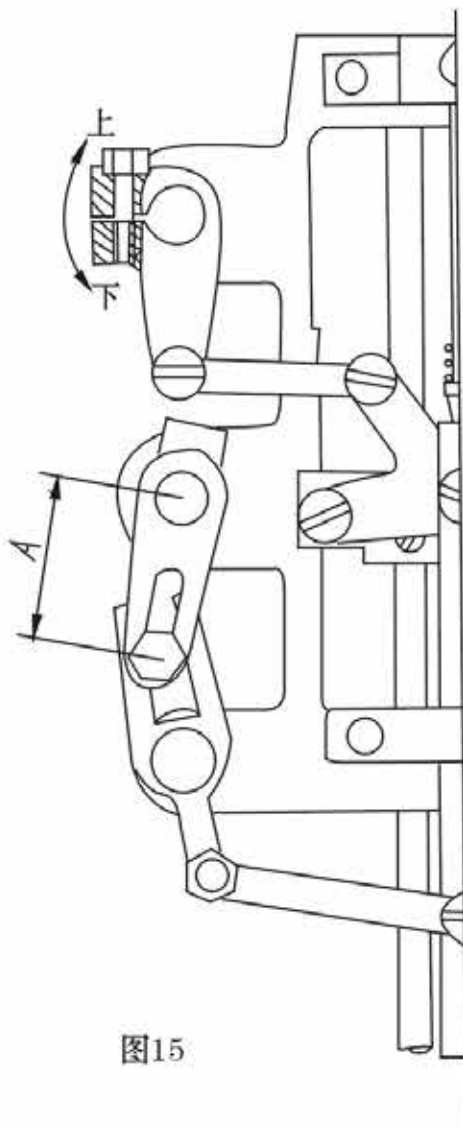

图15
正确的压脚压力标准为, 能够使缝料通过送料牙被平整地向前输送, 并不能有任何缝料打滑现象发生。压脚的压力要根据缝料的厚度加以调节。首先旋松调压螺钉锁紧螺母B, 如缝纫厚料, 应加大压力, 这时将机头顶部的调压螺钉A, 按图15 (C) 所示箭头方向旋动; 反之, 缝纫薄料时可按图八(D)所示箭头方向转动调压螺钉, 以减小压脚的压力。最后旋紧调压螺钉锁紧螺母B, b即成。
The right foot pressure standard, can make the material feeding teeth was flattened by Forward delivery, does not have any material slippage. Foot pressure should be adjusted according to the material thickness. First unscrew the pressure regulating screw nut B, B, such as sewing thick material, should increase the pressure, then the head at the top of the pressure regulating screw A, Figure 15 (C) a according to the direction of the arrow shown turn; conversely, sewing thin material according to plans Eight (D) shows the direction of the arrow rotating pressure regulating screw, so as to reduce the foot pressure. most After tightening the pressure adjusting screw nut is B, B.
### 三十一、压脚交叉提升机构的调节 (图15)
#### 31. Alternative lifting mechanism adjustment of presser (shown in fig 15)